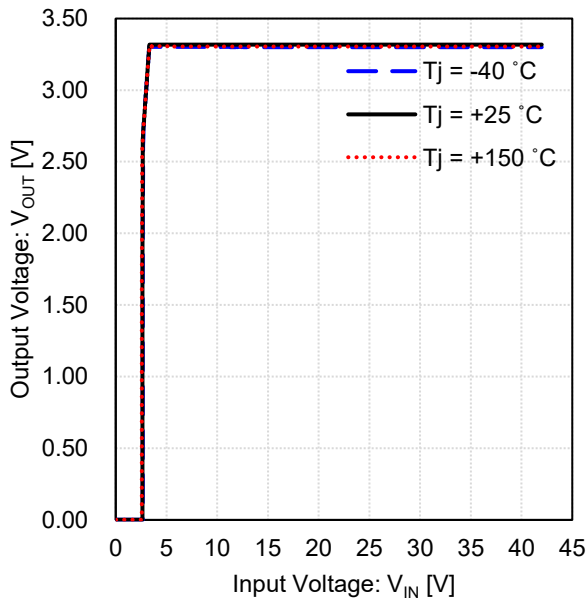

Figure 37. Output Voltage vs Input Voltage
*magnification of Figure 37 at narrow range output voltage